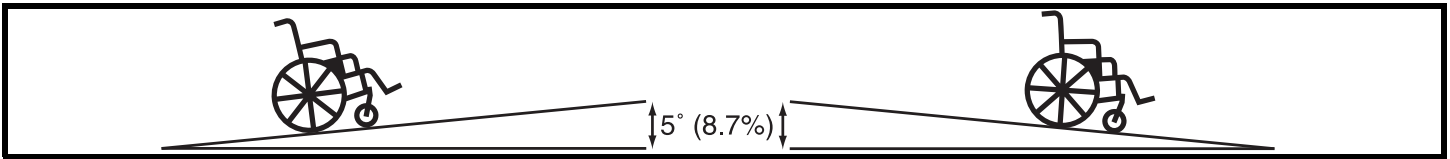

Figure 1. Maximum Safe Slope (Ascending and Descending)
**WARNING! Even though your wheelchair is capable of climbing and descending slopes greater than those illustrated in figure 1, do not, under any circumstances, exceed the incline guidelines or any other specifications presented in this manual. Doing so could cause instability in your wheelchair.**
Pride recommends that the maximum slope of an incline you attempt to safely ascend or descend on your wheelchair does not exceed 5° (8.7%). See figure 1.